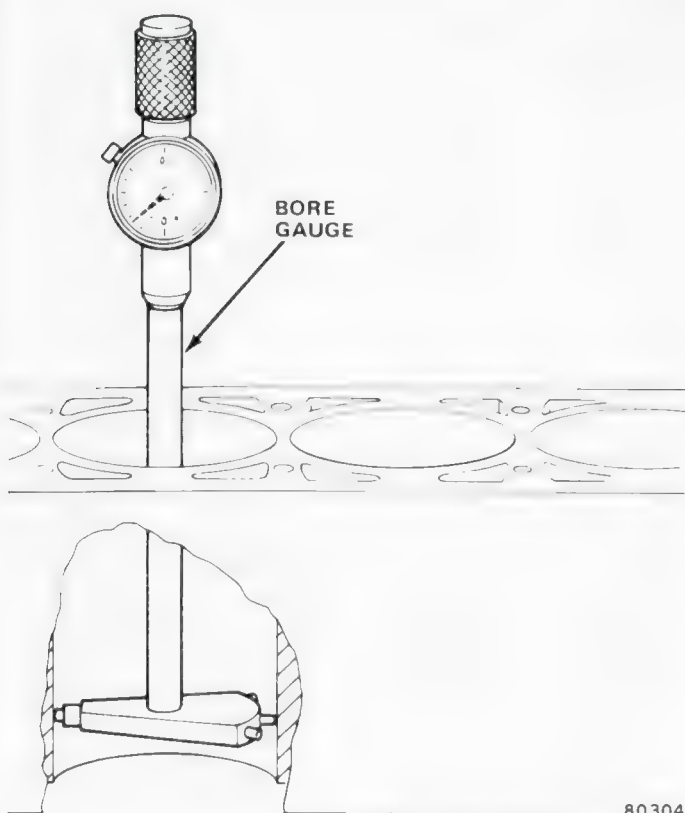

Fig. 1B-122 Measuring Cylinder Bore with Bore Gauge
Use a bore gauge to measure the cylinder bore (fig. 1B-122). If a bore gauge is not available, use an inside micrometer.
(1) Install upper main bearing inserts in cylinder block.
(2) Install crankshaft.
(3) Install main bearing caps and inserts. Apply oil to insert before installing. Tighten screws to 80 foot-pounds (108 Nm) torque. Plastigage all bearings if replacement bearings or crankshaft have been installed.
(4) Clean cylinder bores thoroughly. Apply a light film of clean engine oil to bores with a clean, lint-free cloth.
(5) Install piston rings on piston. Refer to Piston Rings for sequence.
(6) Lubricate piston and rings with clean engine oil.
(7) Use Piston Ring Compressor Tool J-5601 to install connecting rod and piston assemblies through the top of the cylinder bores (fig. 1B-100).
(8) Install connecting rod bearing caps and inserts in the same order as removed. Apply oil to inserts before installing. Tighten retaining nuts to 33 foot-pounds (45 Nm) torque.
(9) Install oil pump using replacement pick-up tube and screen.
(10) Install engine oil pan using replacement gaskets and seals. Tighten drain plug securely.
(11) Install camshaft and timing chain.
(12) Install timing case cover.
(13) Install vibration damper and drive pulley.
(14) Install valve tappets.
(15) Install gasket and cylinder head.